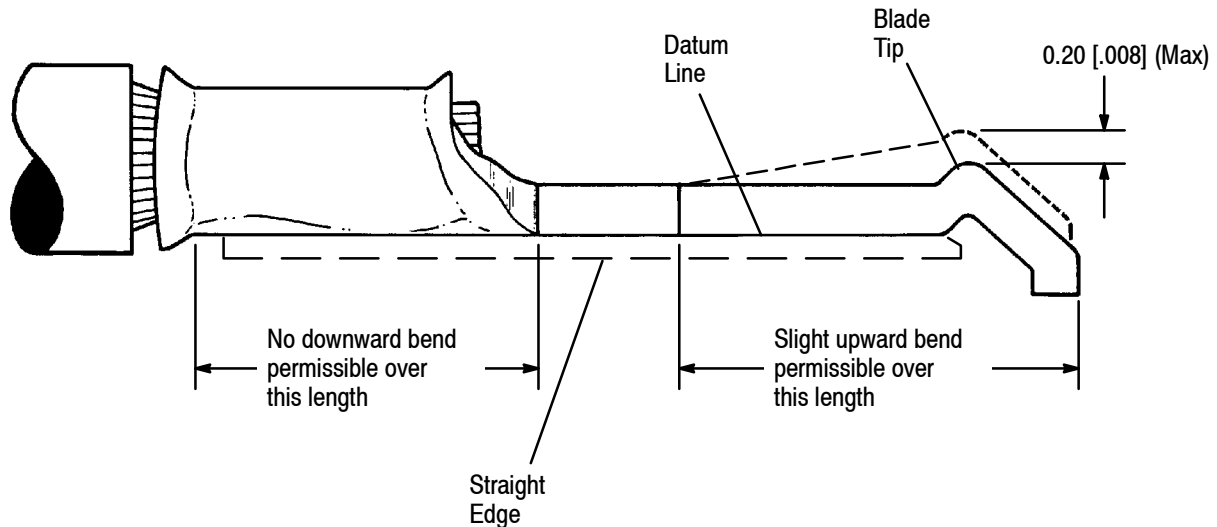

Figure 3
1. Contact blade tip shall not be above datum line more than the amount shown in Figure 3. No downward bend permissible.
1. Place a straight edge under the contact blade and wire barrel as indicated in Figure 3.